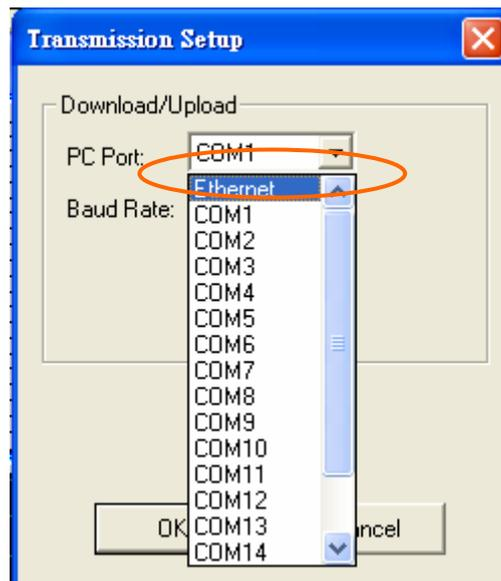

Figure 210. [Transmission Setup]
2. In ADP 6.0, select [Options]/[Transmission Setup] and select “Ethernet” from the [PC Port] list. See Figure 210.